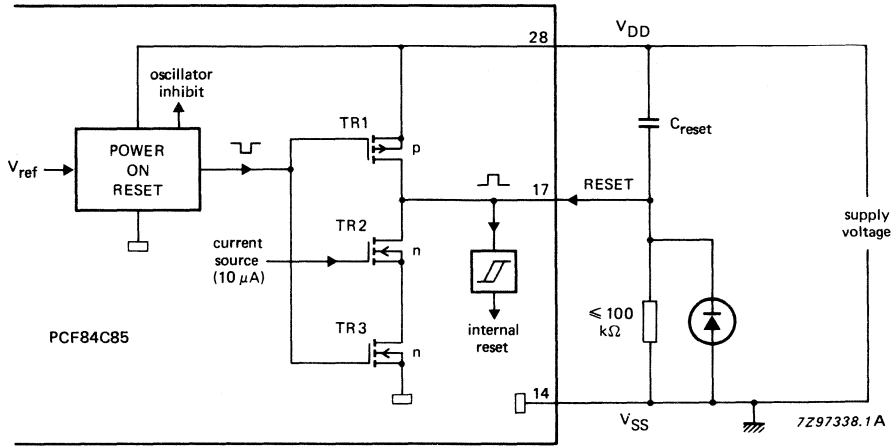

Fig. 23 Stretched power-on-reset with external components.
2. If  $V_{DD}$  has a slow rise time then the RESET signal should be stretched by an external RC circuit (see Fig. 23 and 24). In the event of a short drop in the supply voltage, the diode path rapidly discharges the capacitor to ensure a reliable power-on reset. To ensure a correct reset, the RESET signal should reach at least 70% of the final value of  $V_{DD}$ . Given that the RESET voltage and  $V_{DD}$  rise exponentially, the above requirement is satisfied when the time constant  $\tau$  of the RESET pulse is  $>8$  times the time constant of  $V_{DD}$ . If  $V_{DD}$  rises linearly, then a RESET time constant  $> 2$  times the rise time of  $V_{DD}$  is required.